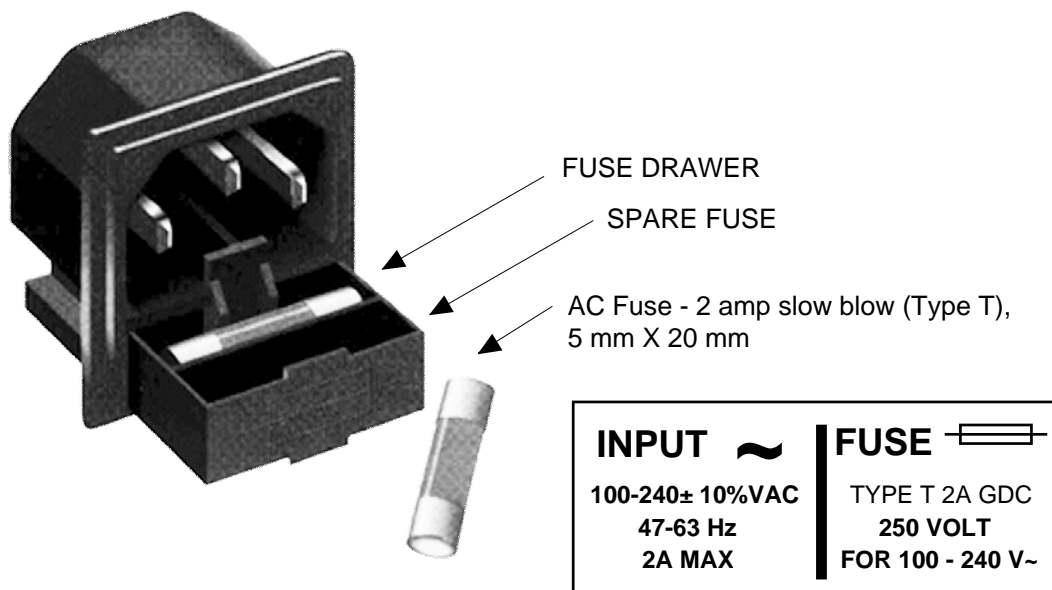

FIGURE 2.4 Fuse Location and Spare Fuse
8. AC Fuse - The fuse is a 5 mm X 20 mm, 2 amp slow blow (Type T) and is inserted in the far slot in the drawer below the AC input as shown in Figure 2.4. There is a spare fuse in the near slot. If a fuse continues to open, the power supply is most likely defective.